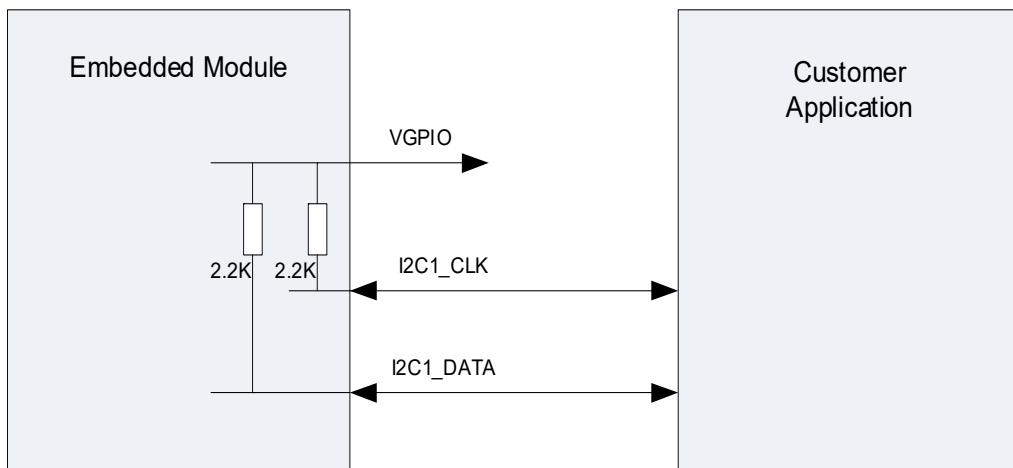

Figure 4-5: Example of  $I^2C$  Bus Application
- I2C signals are implemented internally as open drain outputs (per the I2C specification) with 2.2 kΩ pull-up resistors to VGPI0 (see Figure 4-5).